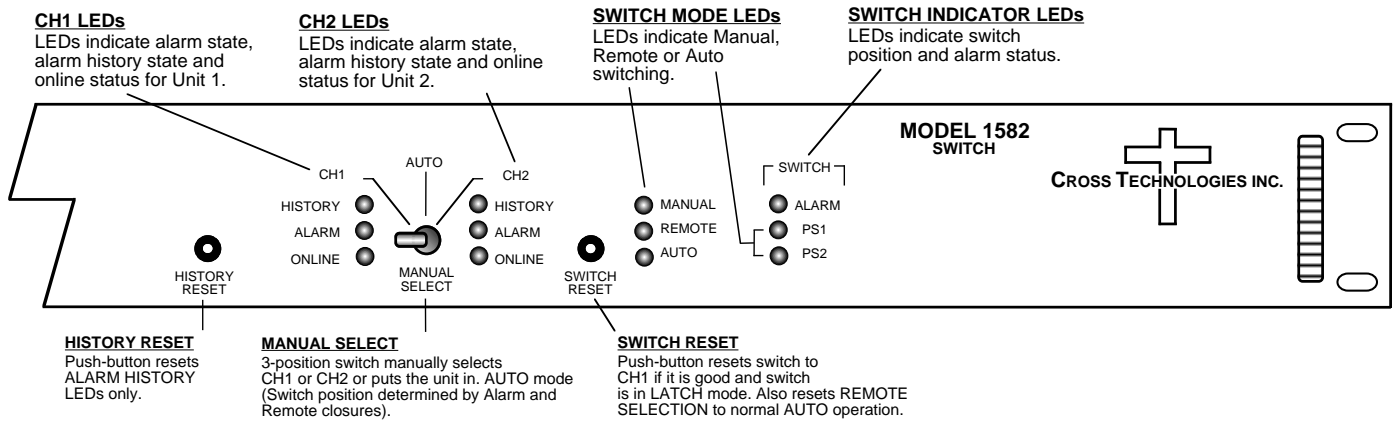

FIGURE 2.3 1582-125L2 Switch, Front Panel Controls and Indicators
Figure 2.3 shows the front panel controls and indicators.
1. Set the on board controls as desired (Tables 2.0, 2.1, Figure 2.3).